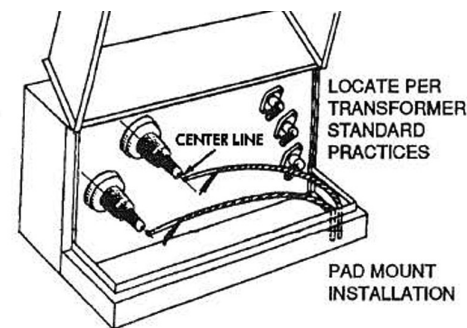

Fig. 1 - Train Cables
A. Train the cable into the final assembled position per transformer standard practices. Allow sufficient slack in the cable to pull the elbow connector at least one foot away from, and in line with, the center line of the mating part during loadbreak operation. See Figure 1.